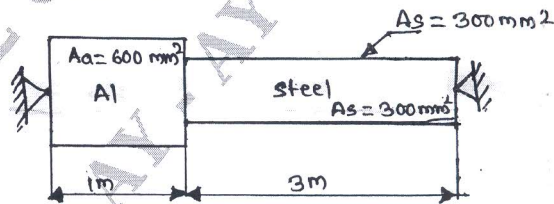

Fig. Q2(c)
- c. A composite bar is rigidly fitted at the supports A and B as shown in Fig. Q2(c). Determine the reactions at the supports when the temperature rises by 20°C. Take  $E_a = 70 \text{ GN/m}^2$ ,  $E_s = 200 \text{ GN/m}^2$ ,  $\alpha_a = 11 \times 10^{-6}/^\circ\text{C}$  and  $\alpha_s = 12 \times 10^{-6}/^\circ\text{C}$ .    (08 Marks)